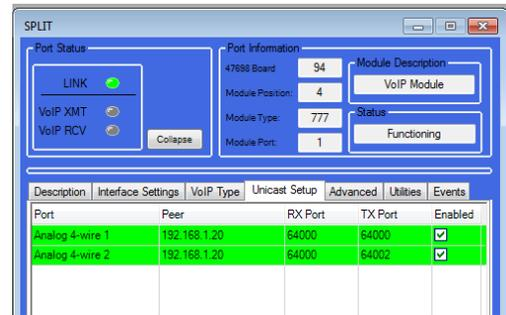

Figure 6
5. Now go to the Unicast Setup tab as shown in Figure 6. This is where the VoIP Configuration takes place.